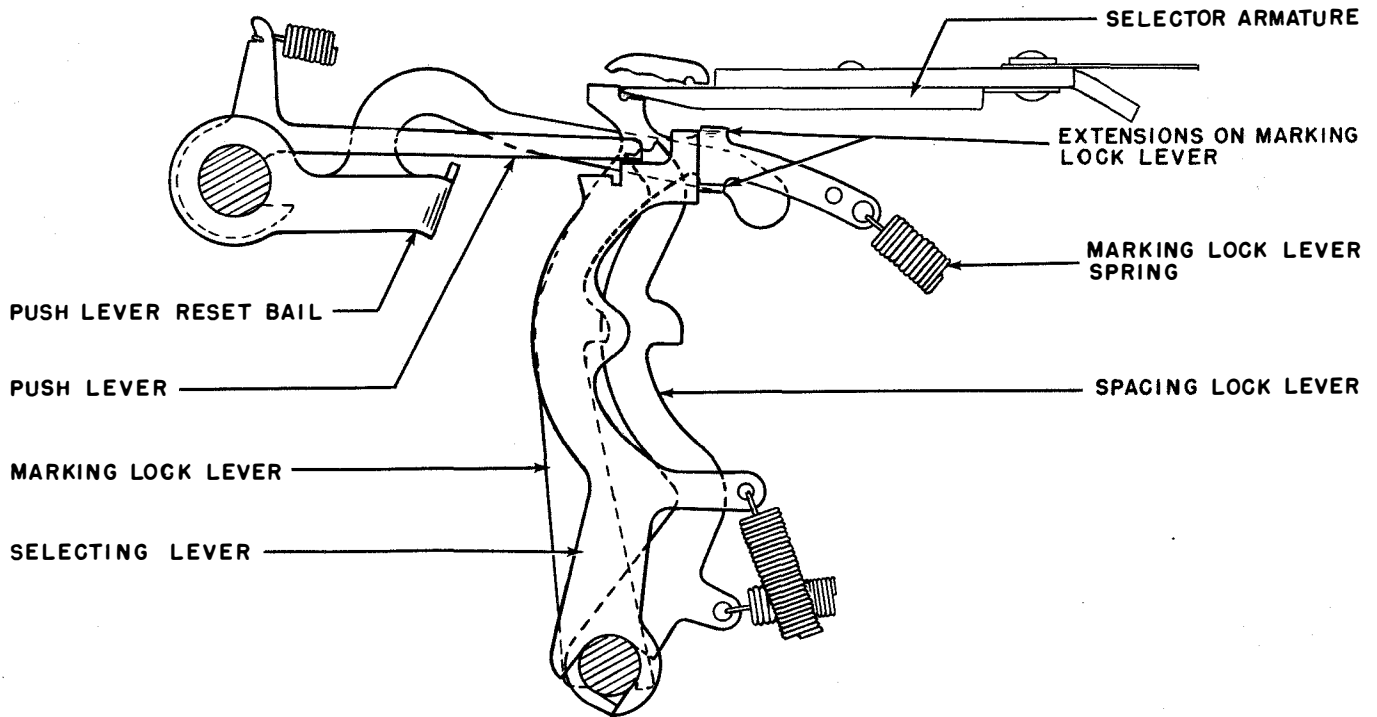

Figure 2-38. Selecting Mechanism, Right End View
(4) A series of five selecting levers and a marking lock lever ride their respective cams on the selector cam-clutch. As the marking and spacing signal elements are applied to the selector magnet, the selector cam-clutch rotates and actuates the selector levers. When a spacing impulse is received, the marking lock lever is blocked by the end of the armature and the spacing lock lever swings toward the right (right end view) above the armature and locks it in the spacing position until the next signal transition is due. Extensions on the marking lock lever prevent the selector levers from following their cams (figure 2-38). When a marking element of the signal is received, the spacing lock lever is blocked by the end of the armature and the marking lock lever swings to the right below the armature to lock it in the marking position until the next signal transition is due. During this marking condition, the selector levers are not blocked by the marking lock lever extensions but are permitted to move against their respective cams. The selecting lever that is opposite the indent in its cam, while the armature maintains a marking condition, swings to the right or selected position momentarily. Each selecting lever has an associated push lever which drops into a notch on the top of the selecting lever when it falls into its cam indent. As the selector cam-clutch turns, each selected selecting lever together with its latched push lever is moved toward the left and held there until all five code impulses have been received. At that time, all selected push levers are positioned to the left and all unselected push levers are positioned to the right in which positions they are held until the next start element is received. When the subsequent start element again causes the selector cam-clutch to rotate, the push lever reset bail, in following its cam, unlatches the selected push levers. The push levers then return to the unselected (right) position under their spring tension.